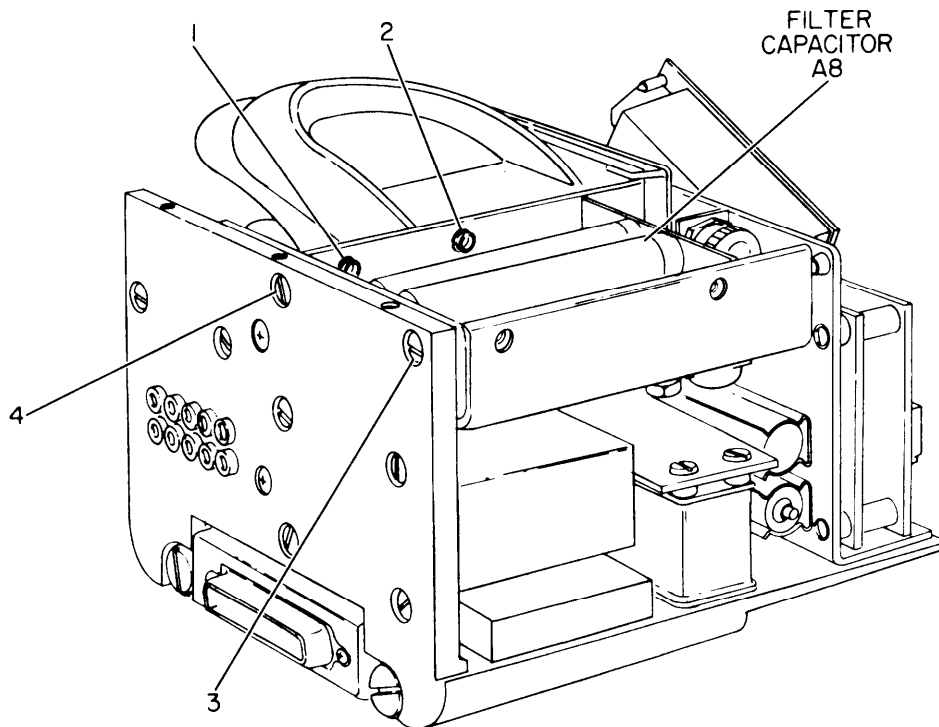

Figure 4-27. Power Supply, Filter Capacitor Assembly Removal
21. Remove four screws (1, 2, 3, 4, figure 4-27) from filter capacitor assembly A8.